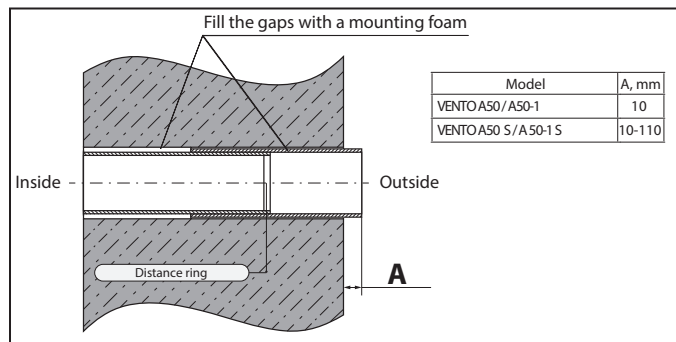

Fig. 8. Telescopic air duct mounting
2. Install the telescopic air duct in the wall. The protruding telescopic air duct section on outer wall side must be equal to the distance A, fig. 8.